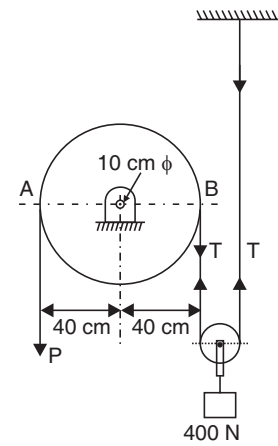

Fig. 10.11
**Example 10.18.** A load of 400 N is lifted up by a pulley system as shown in Fig. 10.11. The co-efficient of friction on journal bearings supporting the larger pulley is 0.2. The friction in the moving pulley may be neglected. Determine :